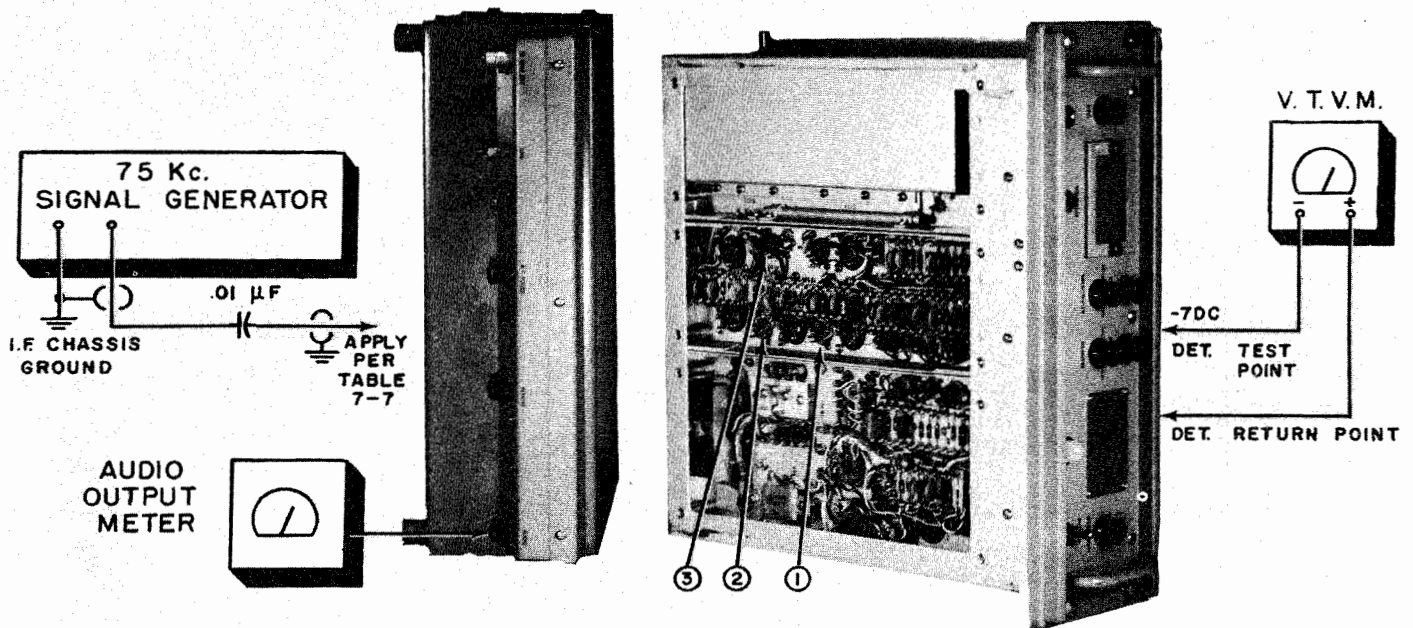

Figure 7-10. Photo—75 Kc IF Test Set-up
(1) Connect the 600 ohm audio output meter across A and B of the AUDIO output receptacle (J505) located on the rear panel. The test set-up is shown in figure 7-10. Proceed with the tests as outlined in table 7-7.